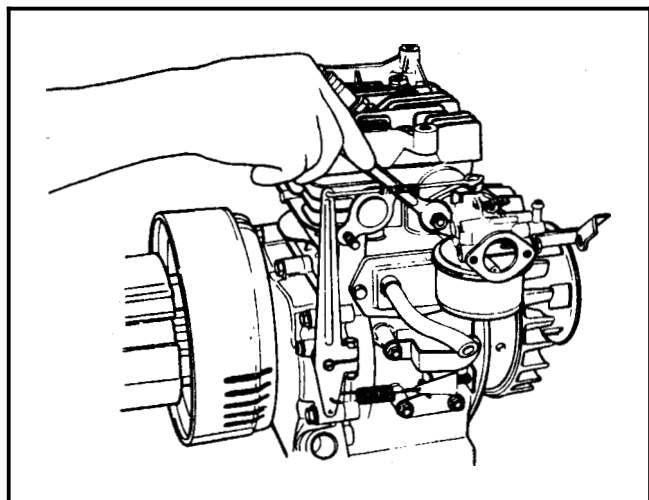

Figure 14
6. Remove the two nuts retaining the carburetor to the engine. See Figure 14.